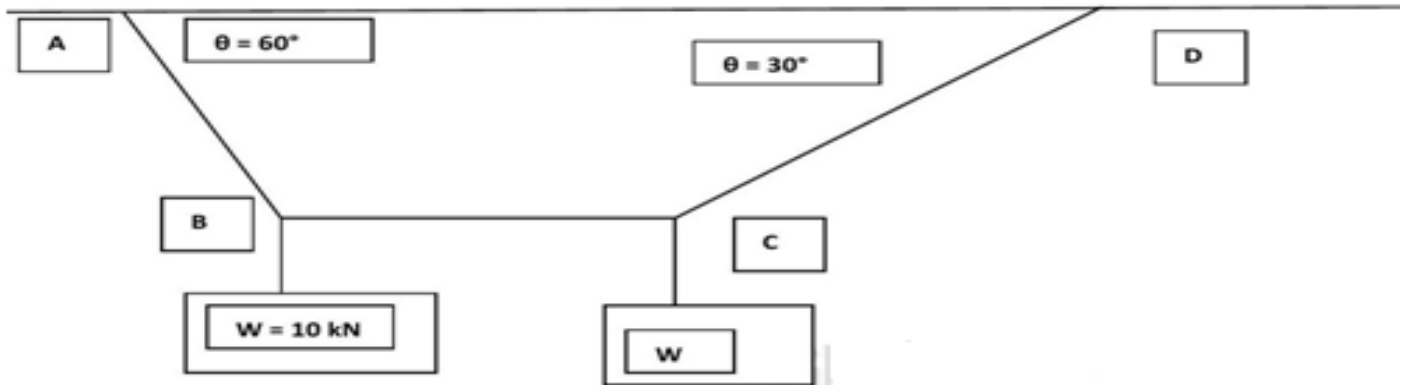

Figure 12 (P: 12).
**Problem 12:** Determine the magnitudes of tension in all segments of the string and the weight  $W$  for the string system as shown in figure 12 (P: 12).